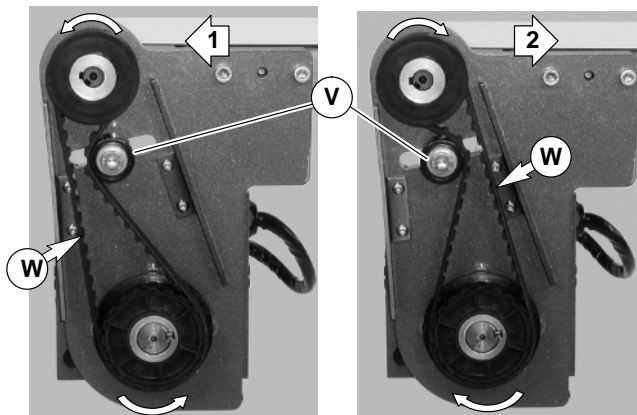

Figure 8
7. Depending on direction of conveyor belt travel (1 or 2 of Figure 8), position belt tensioner (V) as shown. Tension belt to obtain 0.125" (3 mm) deflection for 1.0 lb (456 grams) of force at belt mid-point (W). Tighten tensioner screw to 103 in-lb (12 Nm).
3. Depending on direction of conveyor belt travel (1 or 2 of Figure 8), position belt tensioner (V) as shown. Tension belt to obtain 0.125" (3 mm) deflection for 1.0 lb (456 grams) of force at belt mid-point (W). Tighten tensioner screw to 103 in-lb (12 Nm).
5. Depending on direction of conveyor belt travel (1 or 2 of Figure 8), position belt tensioner (V) as shown. Tension belt to obtain 0.125" (3 mm) deflection for 1.0 lb (456 grams) of force at belt mid-point (W). Tighten tensioner screw to 103 in-lb (12 Nm).